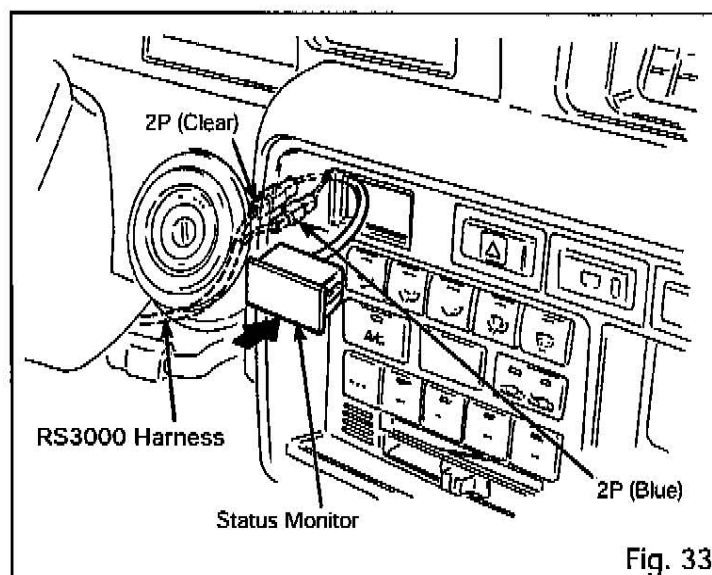

Fig. 33
- (1) A) Feed the Status Monitor's clear and blue 2P male (terminals) connectors into the open knockout hole in the center cluster panel, and mount the Status Monitor into the hole. Fig 33
- B) Insert the RS3000 harness' clear and blue 2P female (terminals) connectors into the Status Monitor's clear and blue 2P male (terminals) connectors. Fig 33